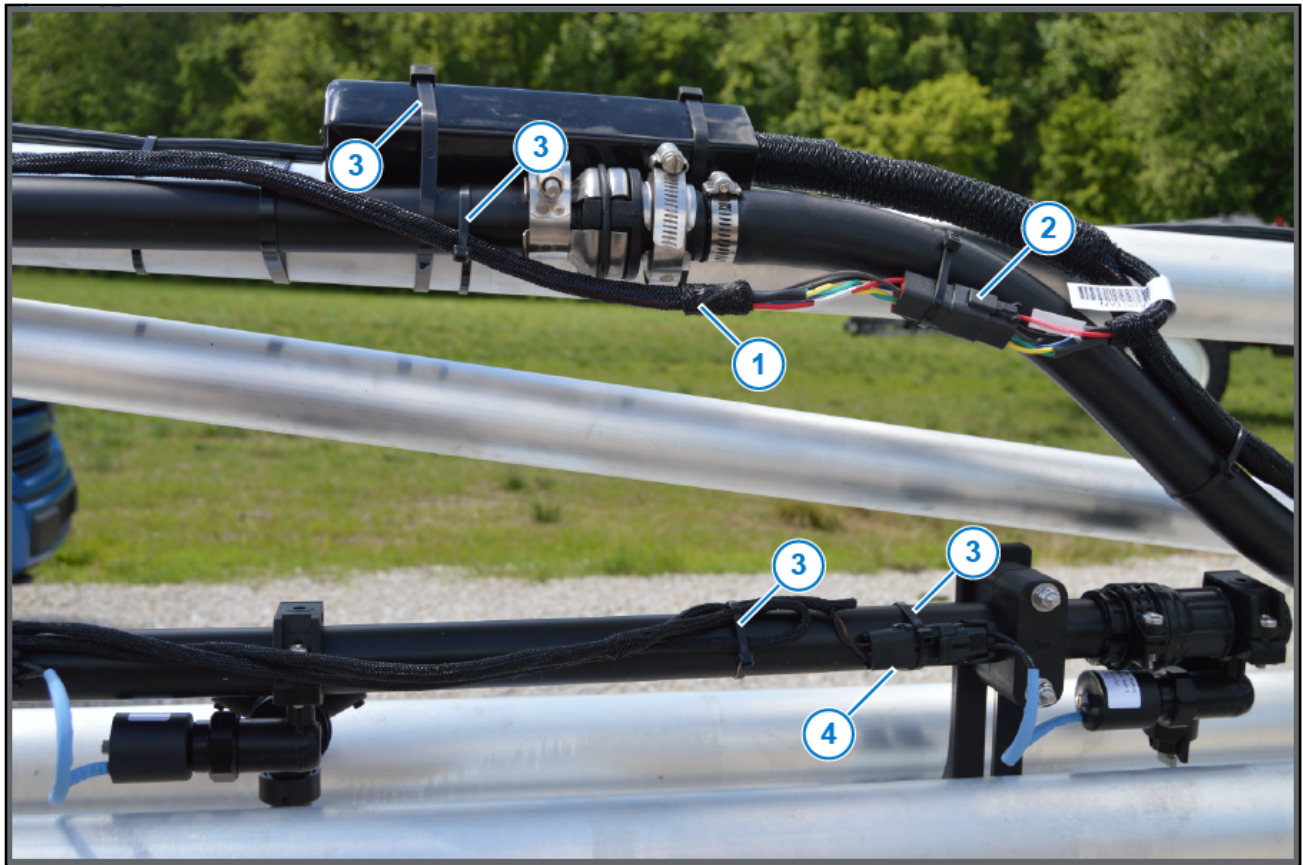

Figure 16: VCM Extension Harness
1. Connect each extension harness (Figure 16, Item 1) to the VCM 6-pin connector (Figure 16, Item 2).
4. Use cable ties (Figure 16, Item 3) to attach the VCMs, harnesses, and nozzle connectors (Figure 16, Item 4) to the boom.